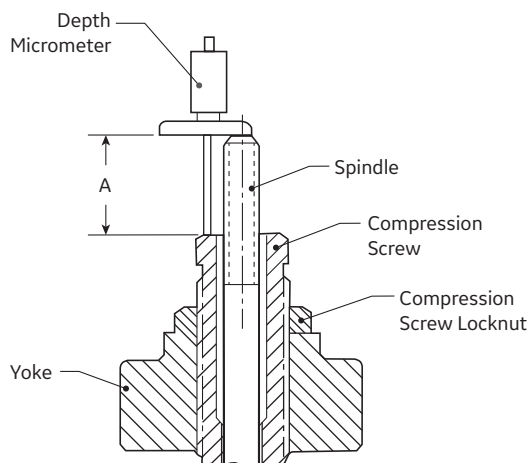

Figure 11: Yoke-Spindle Assembly
4. Refer to Figure 11, and measure and record Dimension A, as this information will be required to correctly re-assemble the valve.